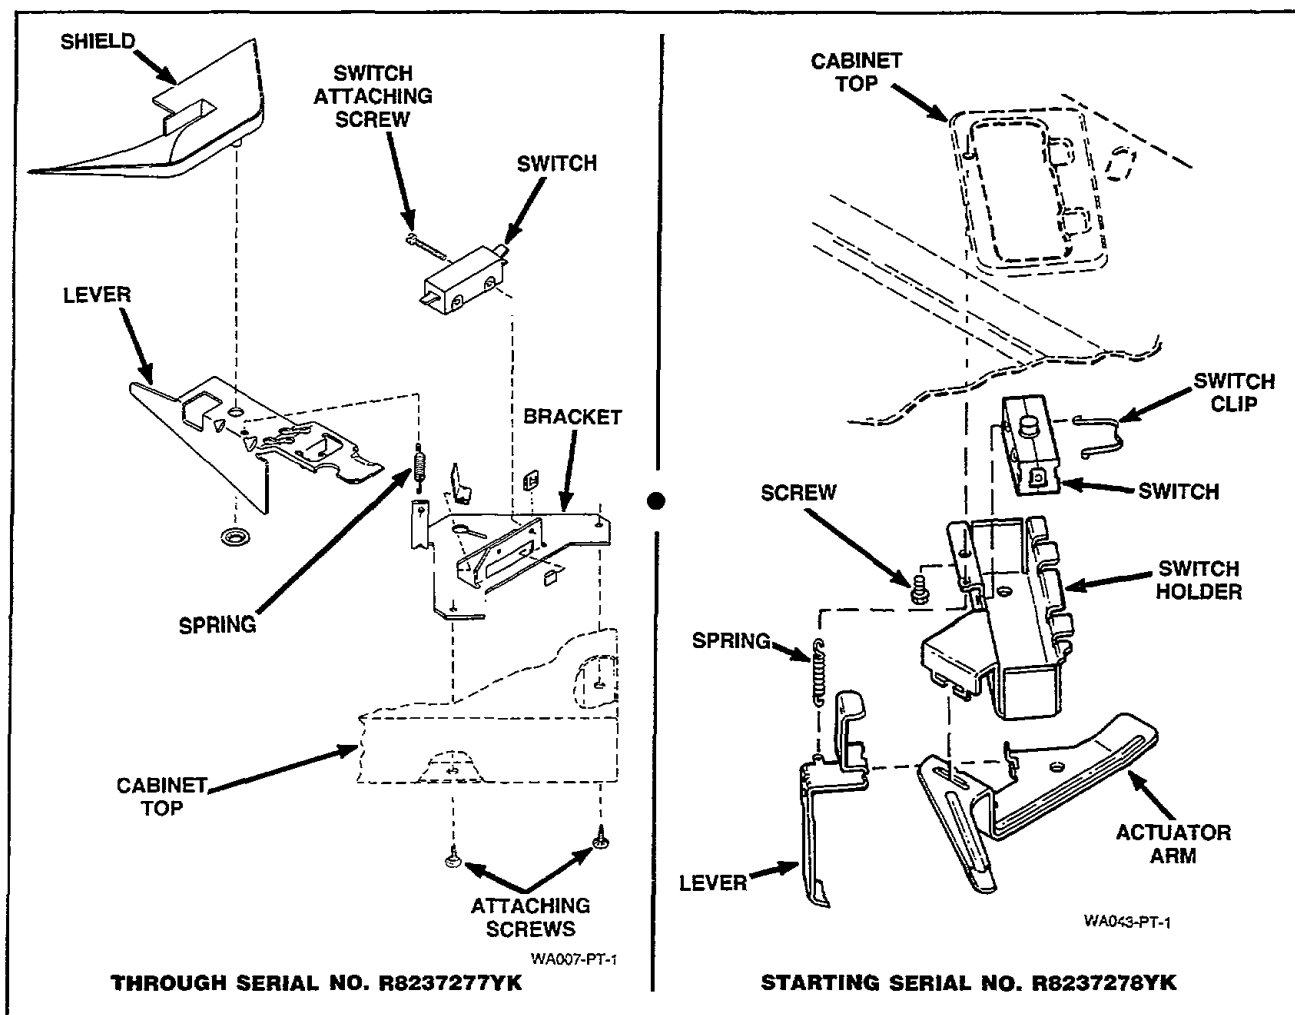

Figure 32
- b. **Through Serial No. R8237277YK** – Remove the two screws holding switch and bracket assembly to the underside of the right front flange of the cabinet top, *Figure 32*.
Starting Serial No. R8237278YK – Remove screw holding switch assembly to underside of cabinet top, *Figure 32*.
- d. **Through Serial No. R8237277YK** – Remove two screws holding switch to bracket, *Figure 32*.
Starting Serial No. R8237278YK – Remove clip holding switch in holder, *Figure 32*.